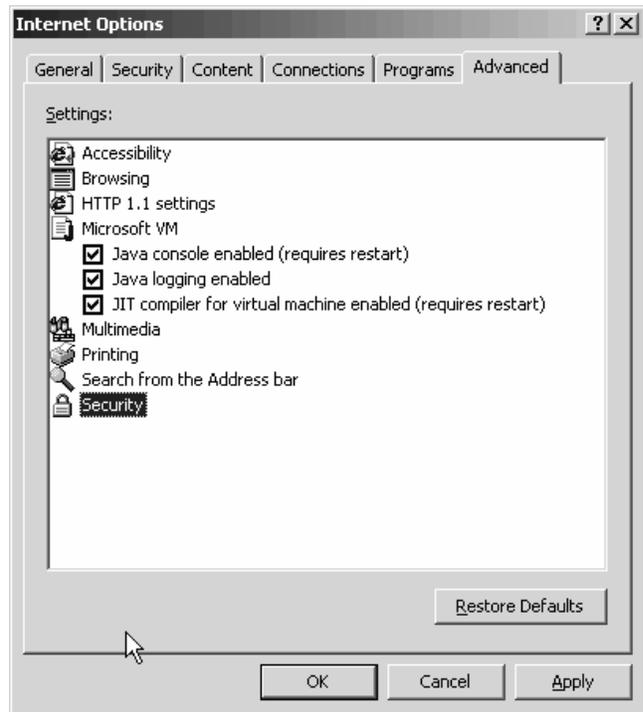

Figure 3
In the case that just a blank grey box appears without any further system progress it might be caused by the JAVA settings of your PC Internet browser. (Figure 3)
- JAVA...(please activate all of the JAVA check boxes, your Internet Options window may vary slightly from Figure 3 example)